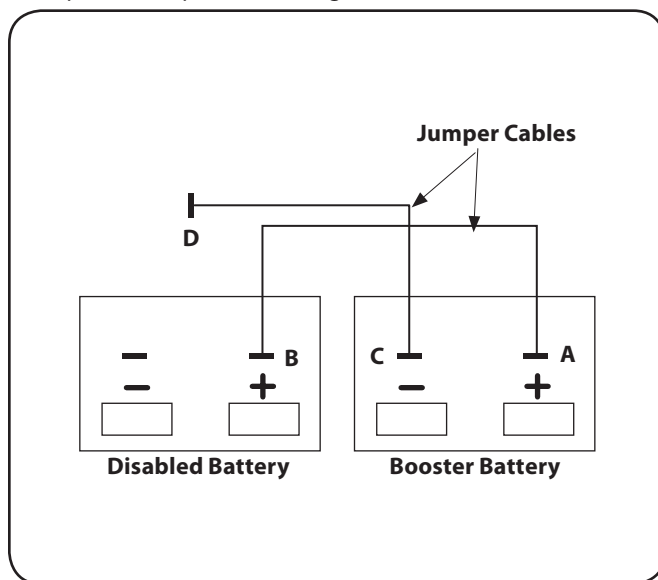

Figure 6-6
1. Connect positive (+) jumper cable to booster battery positive (+) post (A). See Fig. 6-6.